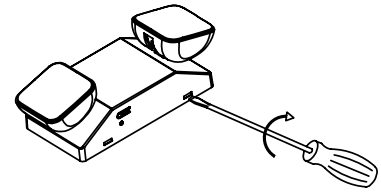

Figure 1
1. Use flat blade screwdriver. Insert the screwdriver to the slots and pry off front cover from fixture. (Figure 1)